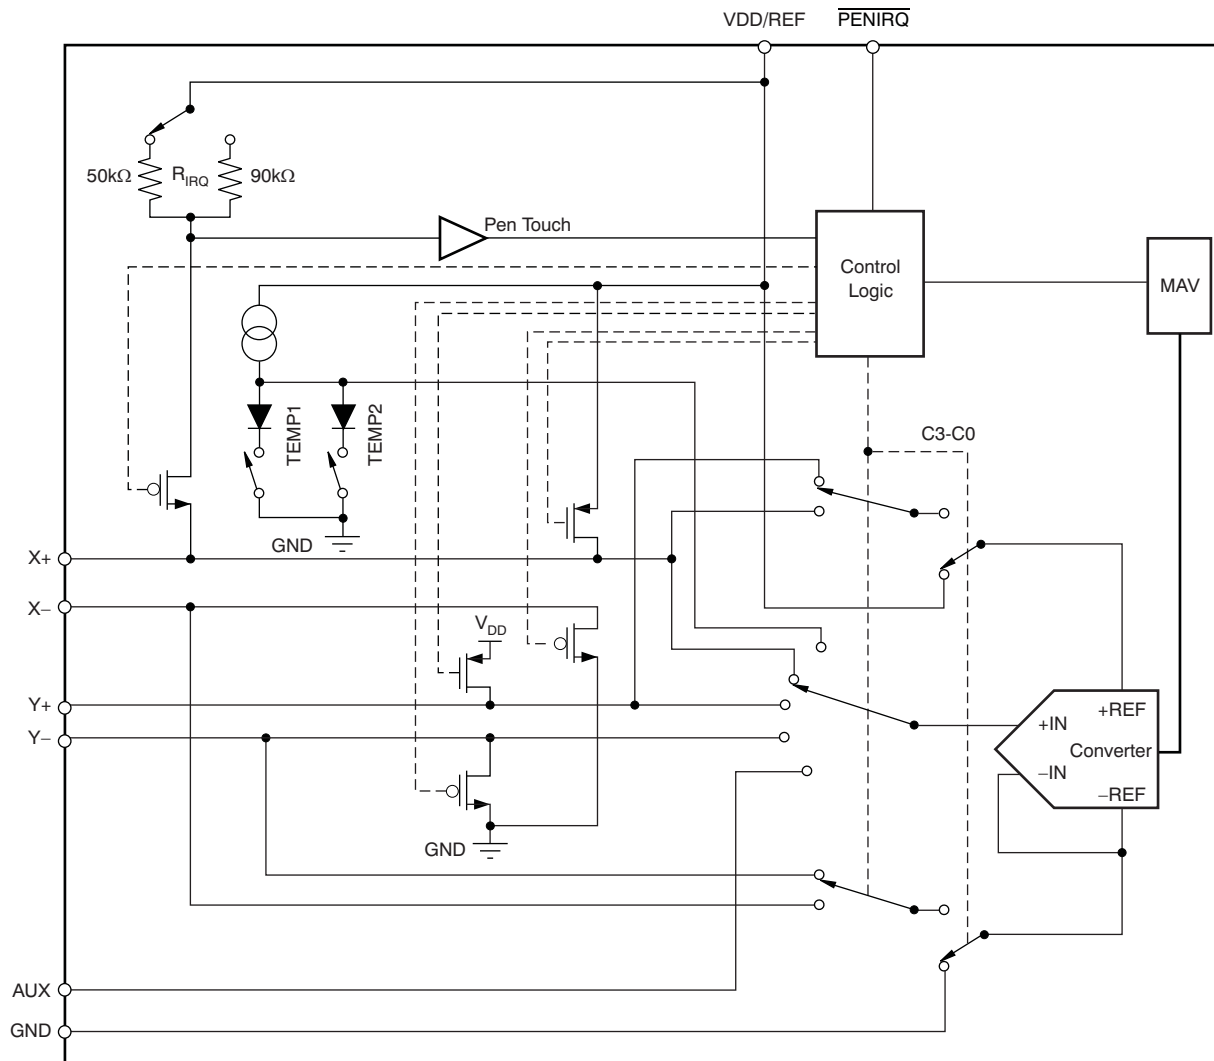

Figure 23. Analog Input Section (Simplified Diagram)
Figure 23 shows the analog inputs of the TSC2007. The analog inputs (X, Y, and Z touch panel coordinates, chip temperature and auxiliary inputs) are provided via a multiplexer to the Successive Approximation Register (SAR) A/D converter. The A/D architecture is based on capacitive redistribution architecture, which inherently includes a sample-and-hold function.
- (1) Reference voltage at converter: +REF – (–REF). See Figure 23.
- (2) Input voltage at converter, after multiplexer: +IN – (–IN). See Figure 23.